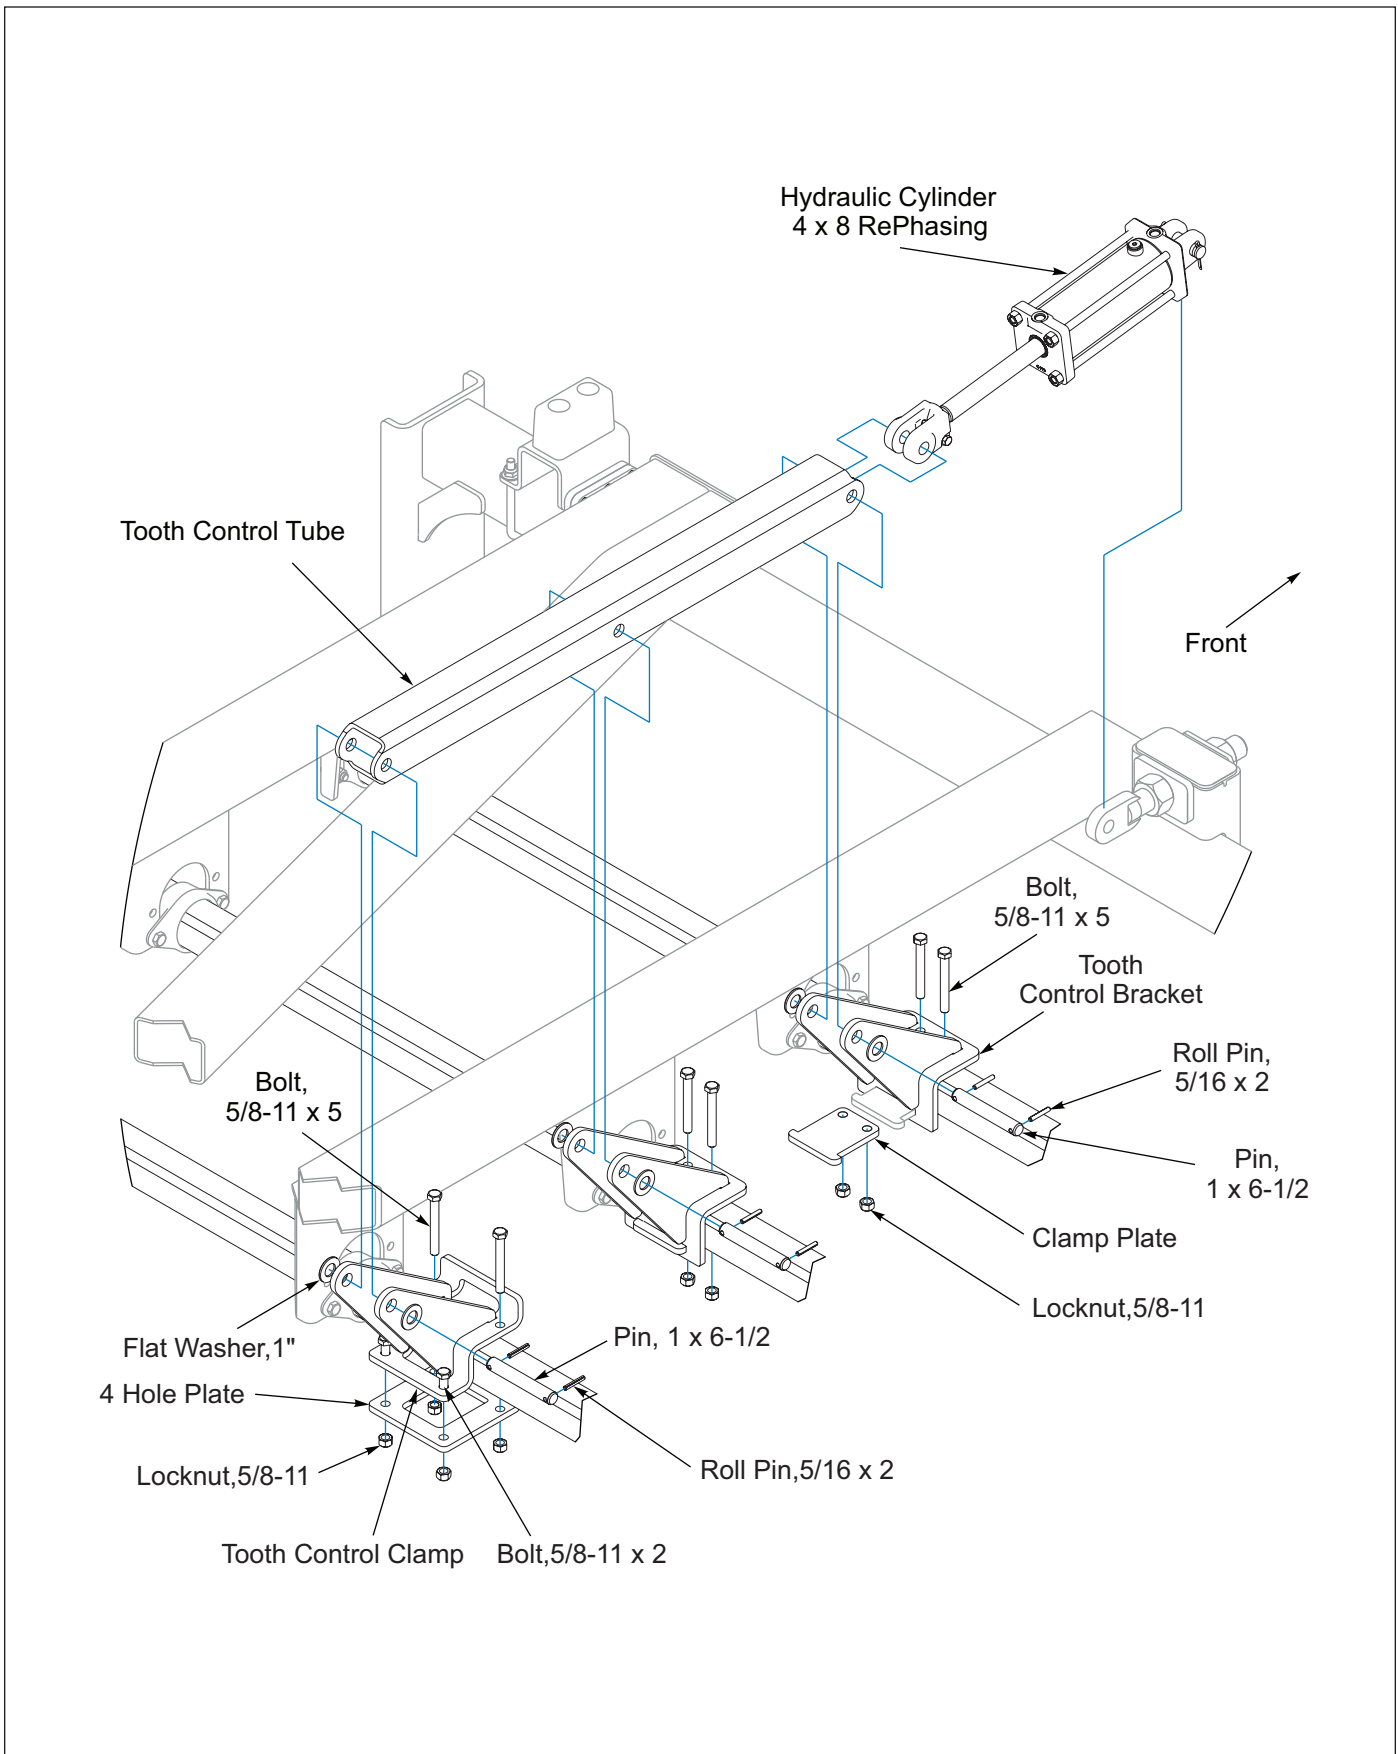

Figure 2-65: Left Hand Wing Tooth Control
1. Attach a Tooth Control Bracket on the top of the Front Tooth Tube by sliding a Clamp Plate into the Tooth Control Bracket Slot and under the Tooth Tube. Fasten with 5/8-11 x 5 Bolts and Locknuts, **Do Not** tighten at this time. **See Figure 2-65.**